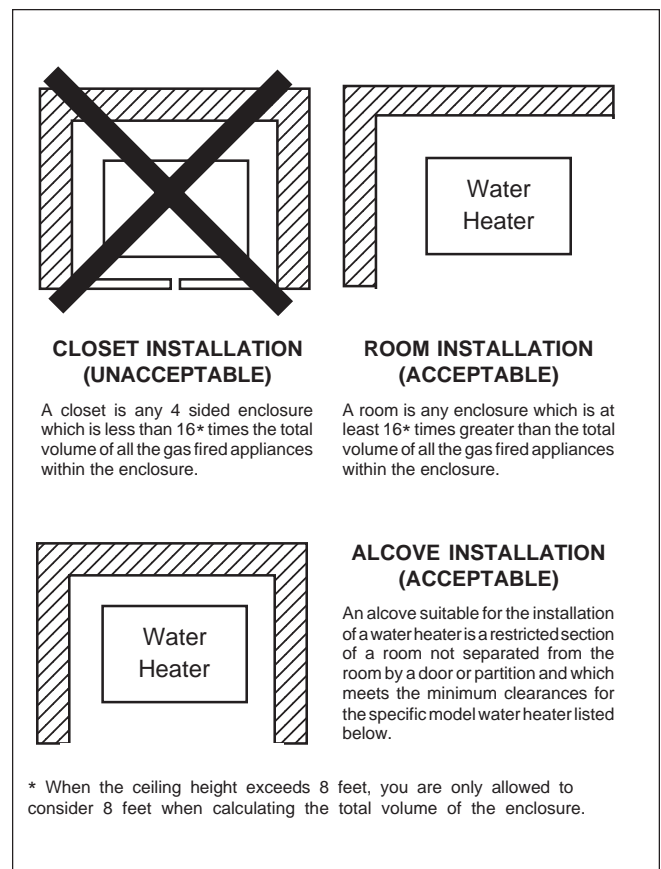

Figure 6. Alcove Installation.
1. Locate the water heater to provide adequate clearance for inspection and service on all sides (see Table I). We recommend minimums of 24" from front (for proper access to and service of controls) and 18" at water connection end. For alcove installation (see Figure 6).